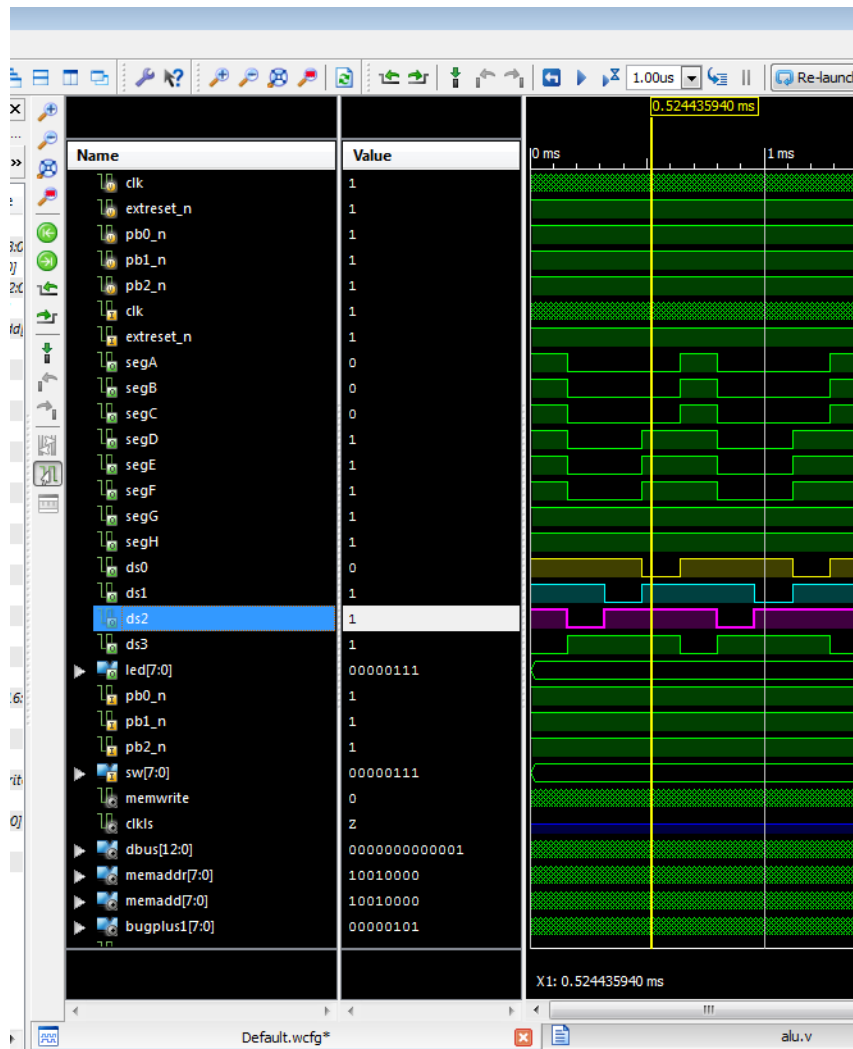

Figure 5-27 7-segment display
- Click the *Default.wcfg* tab, zoom to full view, and you should see the 7-segment display output changing state and putting out the right codes for the 07 Hex read from the dip switches (Figure 5-27).